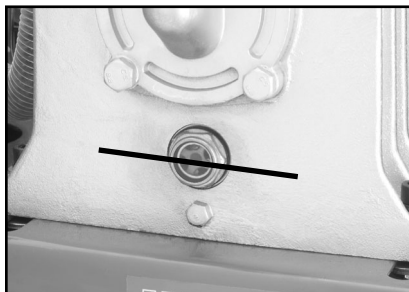

Figure 2. Proper oil level.
3. **ADD OIL TO THE CRANKCASE.** Oil has *NOT* been supplied with your air compressor. The oil level should be in the center of the sight gauge shown in **Figure 2**. Use compressor oil or non-detergent 30 WT oil.